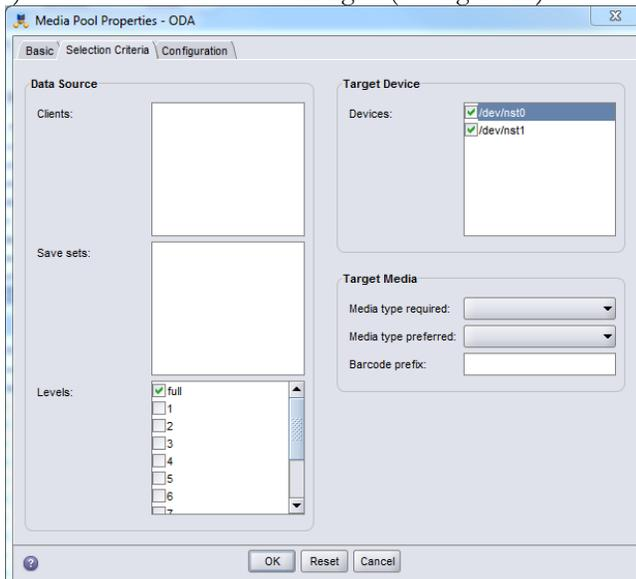

Figure 12: NetWorker Media Pool Properties - Selection Criteria tab.
- 9) Click OK to save changes. (See figure 12):